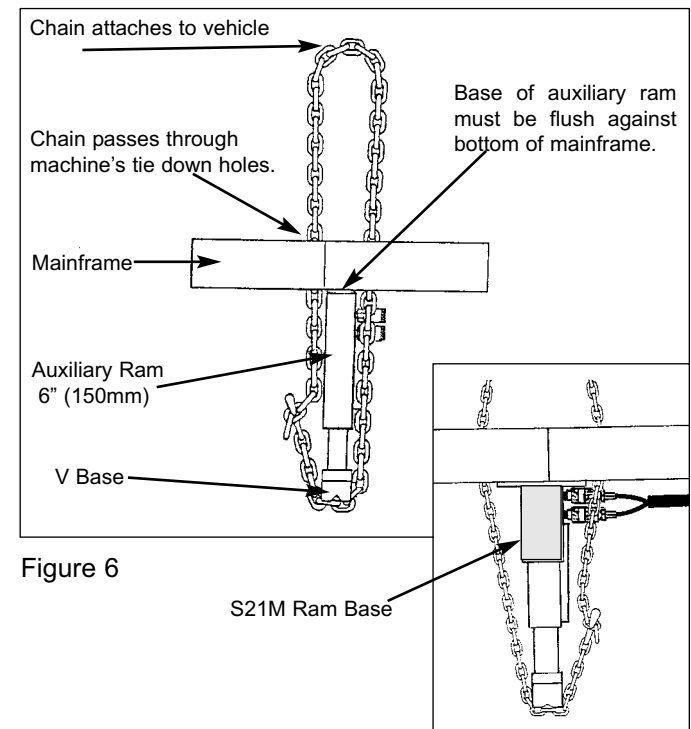

Figure 6
**DOWN PULLS: (See Figure 6)**
**NOTE:** Whenever possible, use S21M ram base accessory for additional stability. (See Figure 6 inset.)